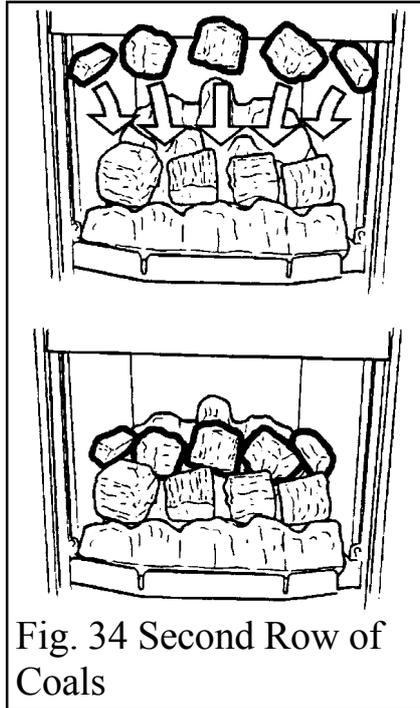

Fig. 34 Second Row of Coals
5. Place 3 of the medium size coals behind and approximately midway between the large coals as shown in figure 34. Place a “finger” coal at each end of the first two rows of coals. See figure 34.